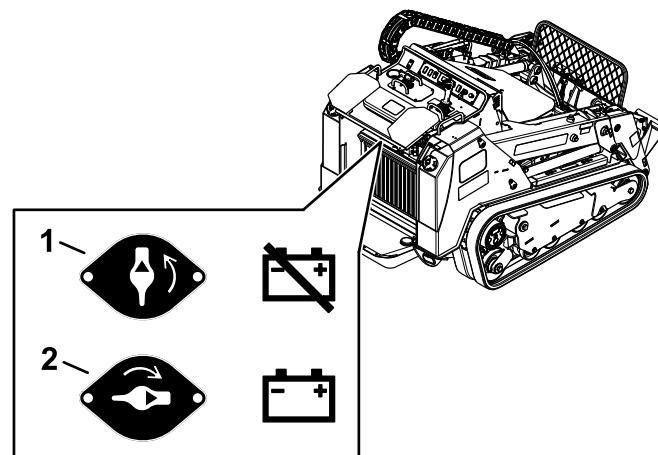

Figure 59
- To energize the machine electrically, rotate the battery-disconnect switch clockwise to the ON position (Figure 59).
- To de-energize the machine electrically, rotate the battery-disconnect switch counterclockwise to the OFF position (Figure 59).